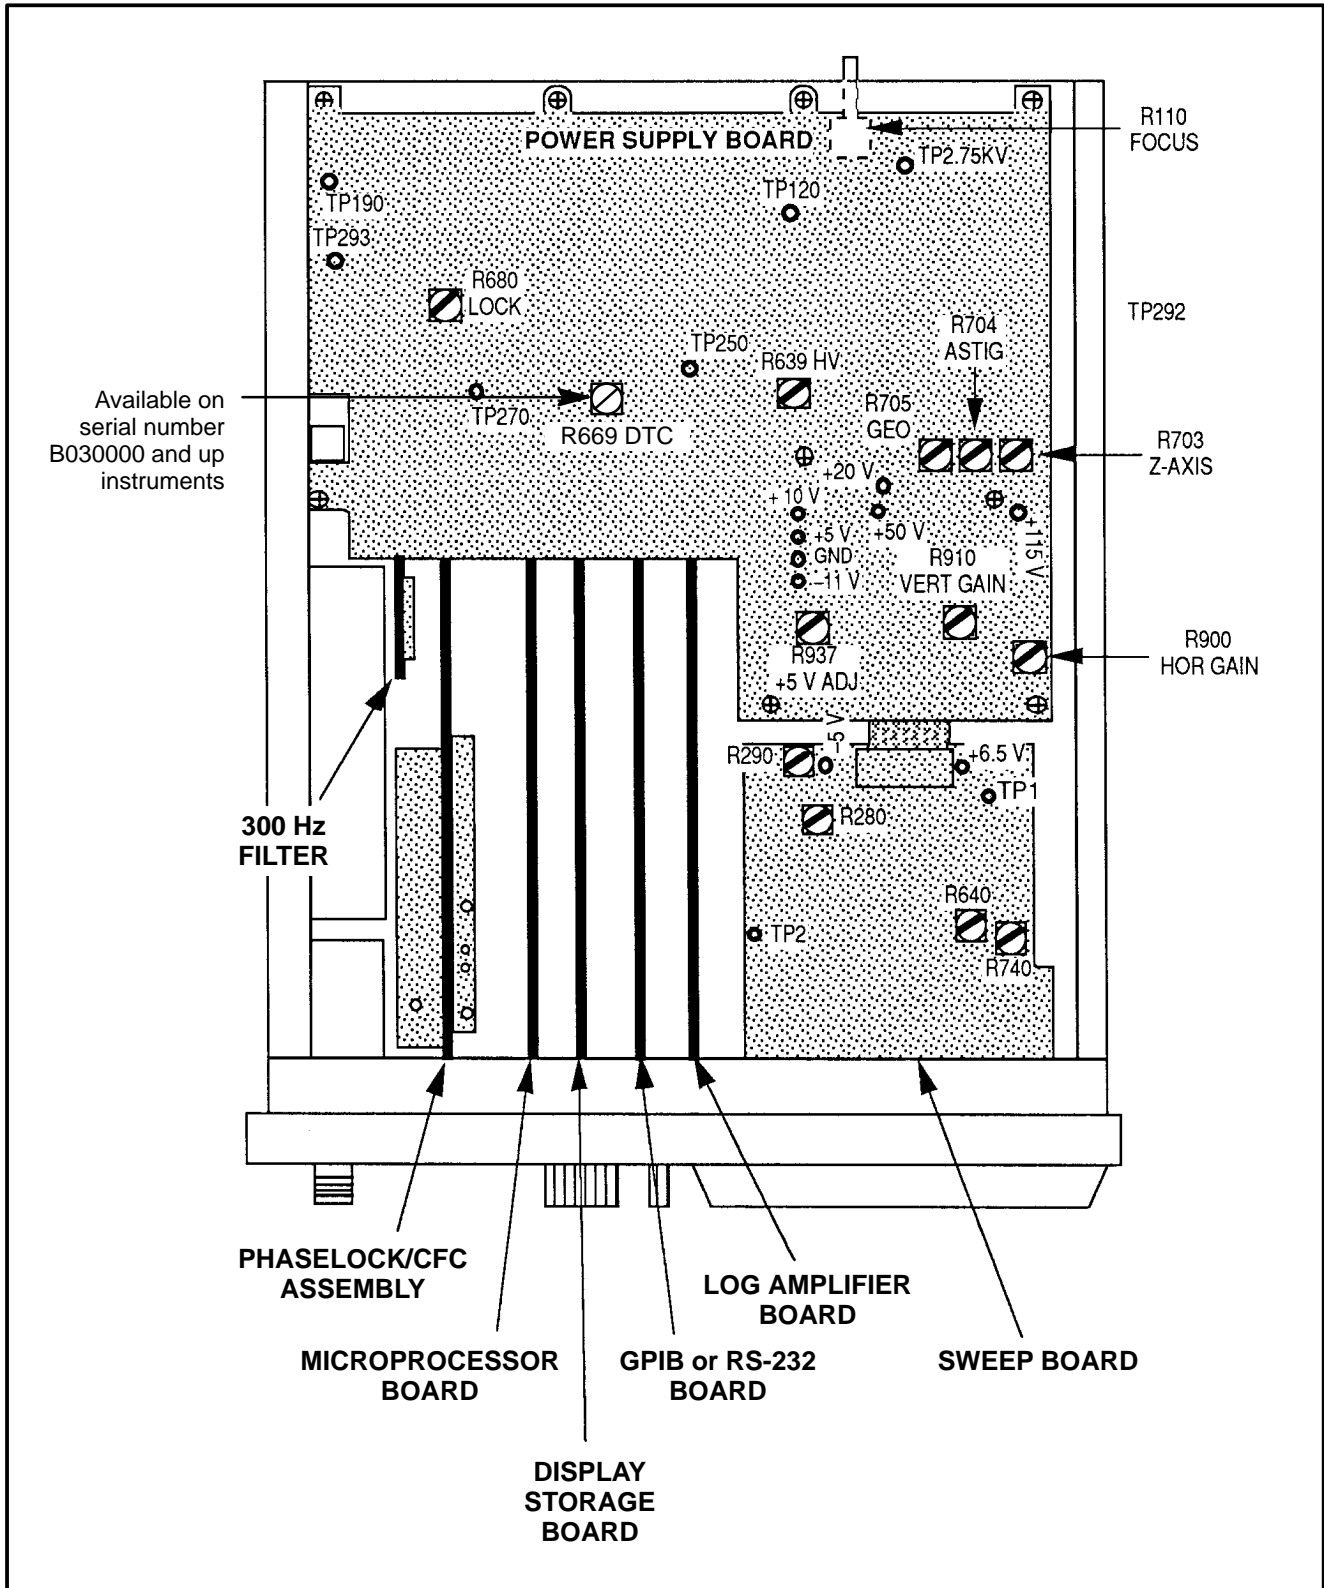

Figure 4-1. Adjustment and test point locations on the Power Supply and Sweep boards.
Refer to Figure 4-1 for the location of most adjustments and test points.
- Monitor TP2 with the voltmeter. See Figure 4-1 for the location of TP2.
- Adjust R290 on the Sweep board (Figure 4-1) for 0.0 V, ± 2 mV at TP2.